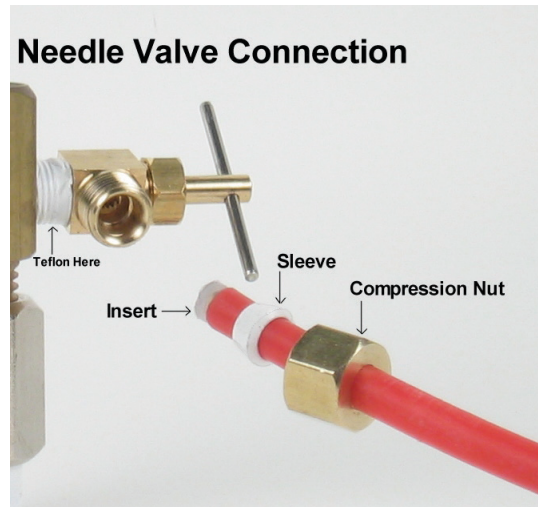

Fig. 5C
4. **Needle Valve:** See Fig. 5C. Screw the Needle Valve onto the Adaptor tightly. Apply 6-8 rounds of Teflon tape onto Needle Valve before attaching it to the Adaptor.
Fitting type: See **Fig. 5c**. Metal compression nut fitting. Use **plastic sleeve**. Add "insert" to tubing. No teflon tape here. Tighten nut with wrench.